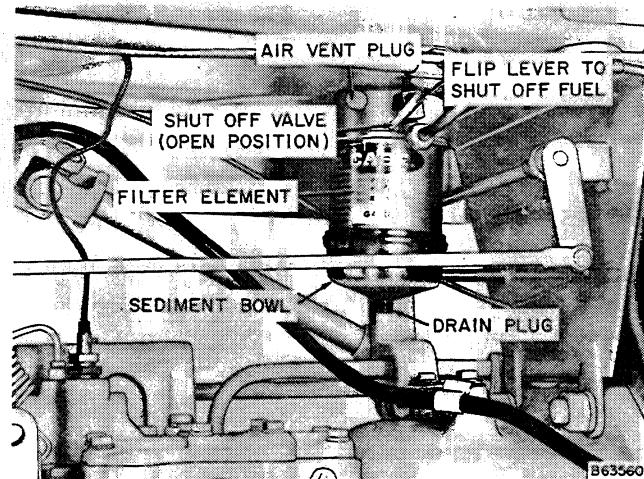

Figure 24 - Fuel Filter (Diesel Engine)
Allow the fuel to settle during the night, so that contaminants will be drained off each morning when the sediment bowl is drained, before starting the day's work. See Figure 24 for location of the filter.
2. Drain water from sediment bowl EACH MORNING, see Figure 24. In cold weather, drain bowl at end of each day's operation to prevent moisture from freezing in the bowl.